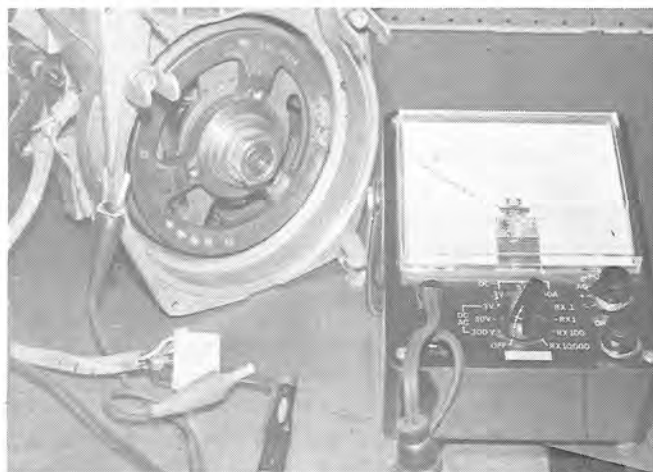

FIG. 1-62
- B. Attach negative lead of ohmmeter to engine ground. Attach positive lead of ohmmeter to No. 1 cylinder terminal in connector housing. See Fig. 1-62.